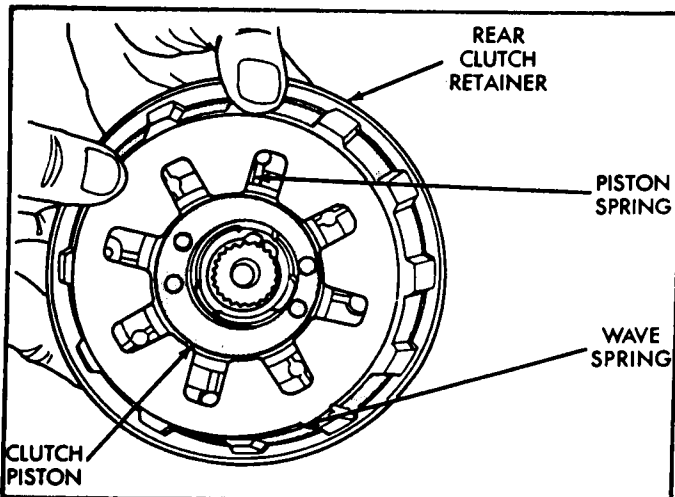

Figure 67
6. Install bellville spring in drum on top of the piston, with concave side facing up (See Figure 67).
7. Install the waved snap ring in groove on top of bellville spring (Figure 67).